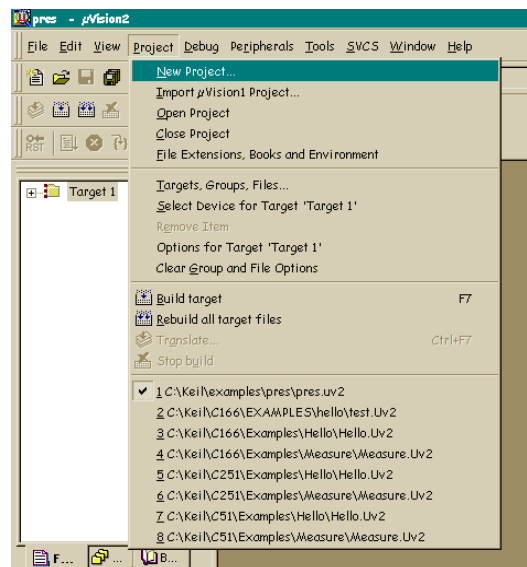

Figure 1.
- Create a new project. From the main window, choose the 'Project' menu and select 'New project...'. A new window appears as shown below in Figure 1.